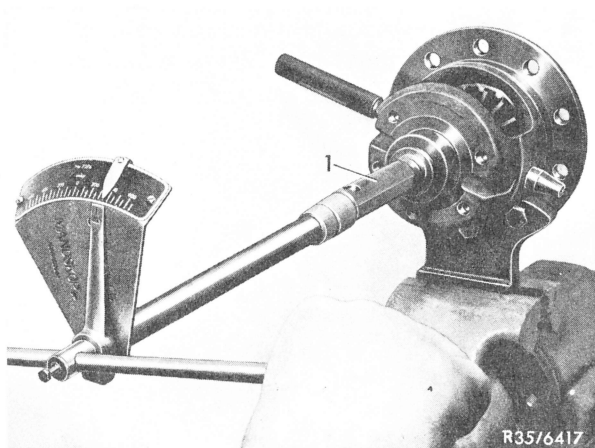

Fig. 11
- 16** Check friction torque (Fig. 11). Friction torque should be approx. 25–35 Nm (250–350 kpcm).